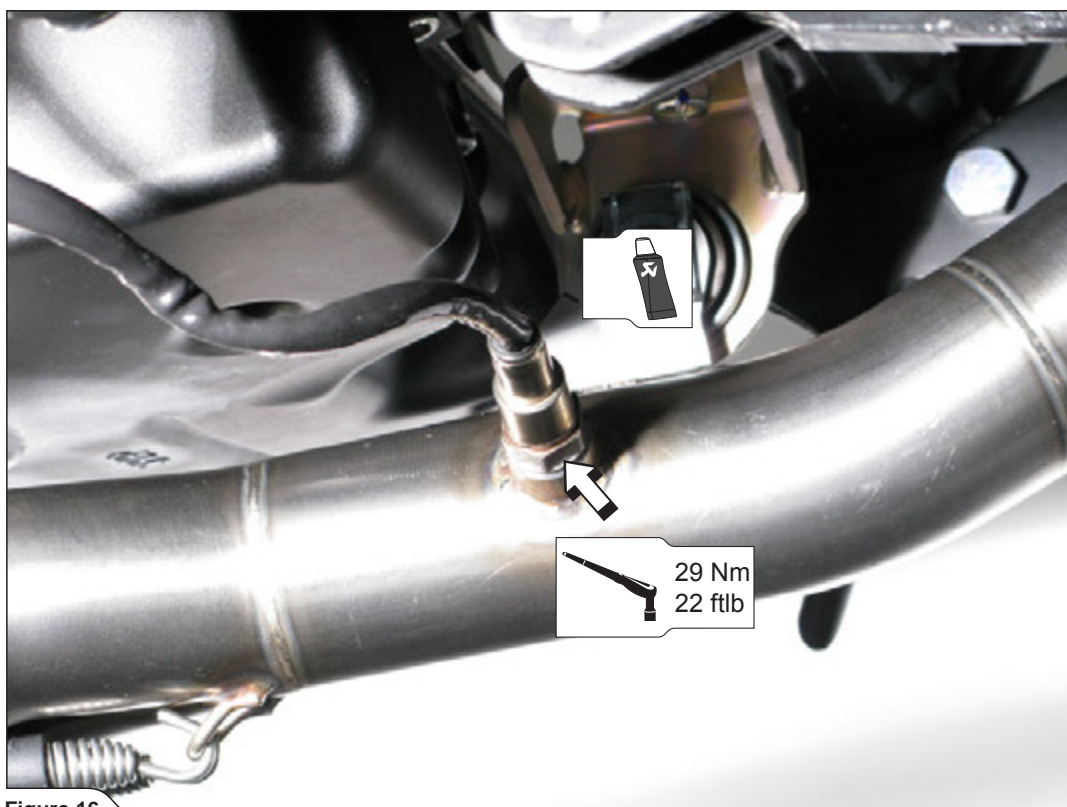

Figure 16
8. For Akrapovič Racing only: tighten the lambda sensor; make sure not to damage the sensor's electrical lead (Figure 16).